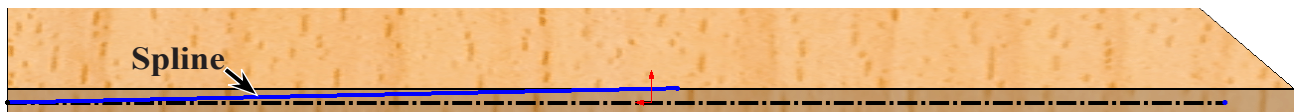

Fig. 19
Step 6. Draw a **2 Point Spline** from left endpoint of centerline to top edge of Wing, **Fig. 19**. Press Escape to end spline.